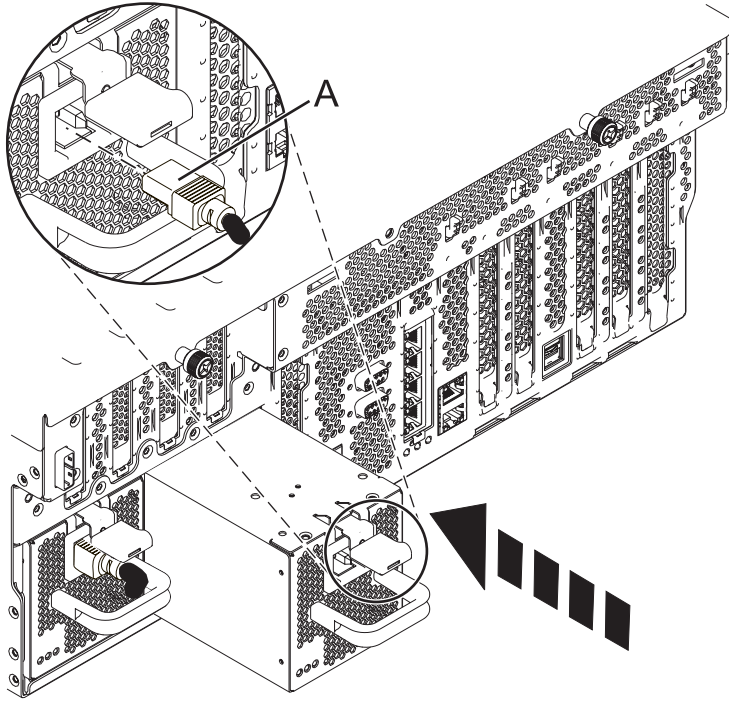

Figure 3. Installing a power supply
5. Push the power supply into place until the locking latch snaps into place as shown in Figure 3 on page 5.